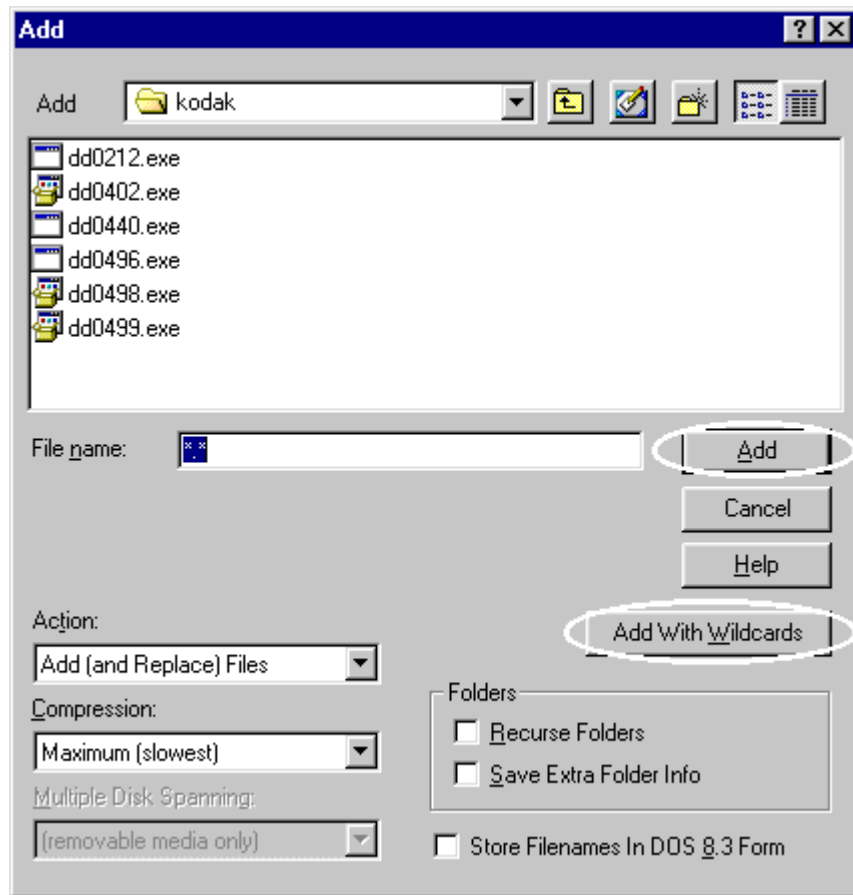

Figure 18 WinZip Add
- To create a new compressed file, click on the **New** button. This will prompt you for the name and directory in which the file will be saved. Figure 18 will be shown afterwards. Select all the files and/or directories to be compressed into the zip file.